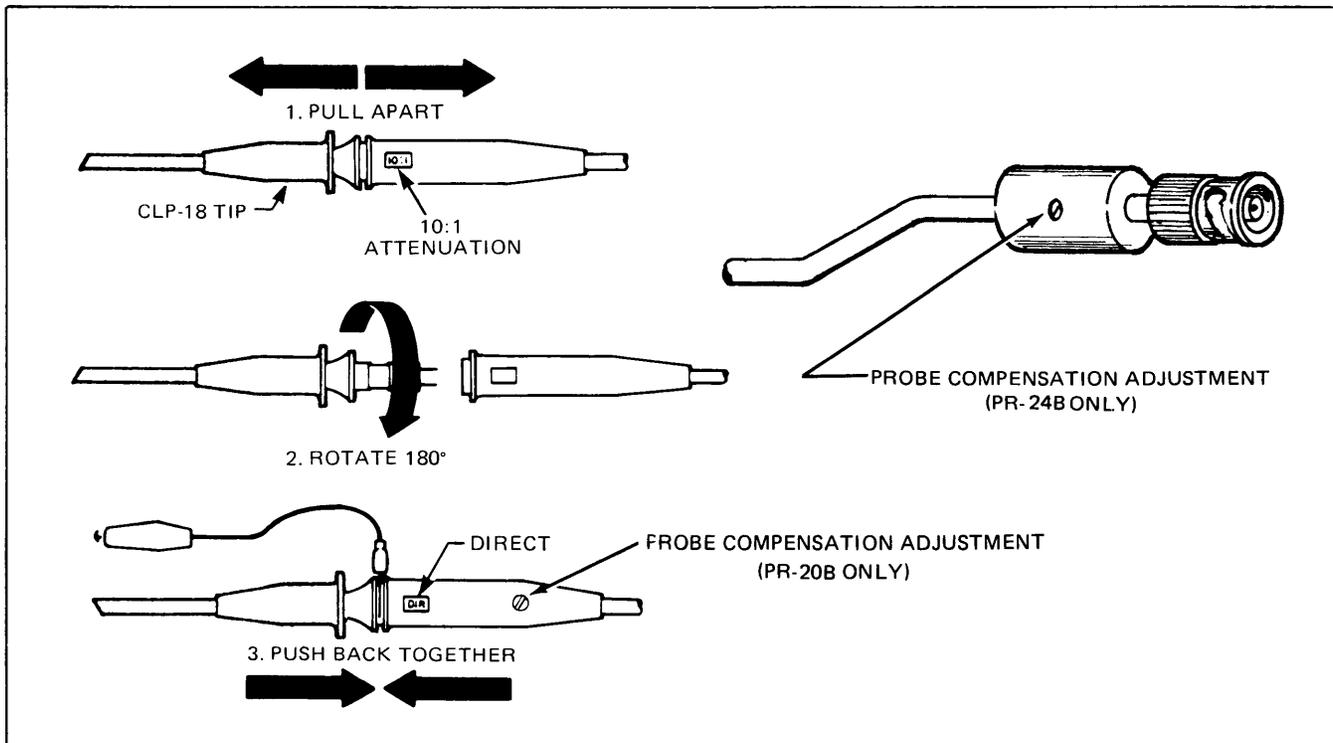

Fig. 3. Probe details.
- 26. Probe (See Fig. 3). The B & K-Precision Model PR-20B and PR-24B combination 10:1/Direct probes have been designed for use with this oscilloscope. However, any
2. For all except low-amplitude waveforms, the probes are set for 10:1 attenuation. For low-amplitude waveforms (below 0.5 volt peak-to-peak), set the probe for DIRECT. See Fig. 3 for changing the probes from 10:1 to DIRECT, or vice versa. The probe has a 10 megohm input impedance with only 18 pF shunt capacitance in
3. If the recommended B & K-Precision Model PR-20B or PR-24B oscilloscope probes are used, 10:1 attenuation should be used except for waveforms of 0.5 volt peak-to-peak or less. For the lower amplitude waveforms the DIRECT position should be used. See Fig. 3 for changing the probe from 10:1 to DIR or vice versa. Whenever possible, use the high impedance, low capacity 10:1 position to minimize circuit loading.